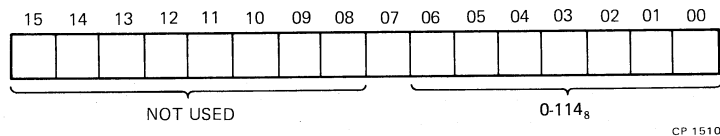

Figure 4-18 RXTA Format (RX11/RXV11)
4.2.2.3 RXTA - RX Track Address (Figure 4-18) - This register is loaded to indicate on which of the 77 (114₈) tracks a given function is to operate. It can be addressed only under the protocol of the function in progress (Paragraph 4.2.3). Bits 8-15 are unused and are ignored by the control.